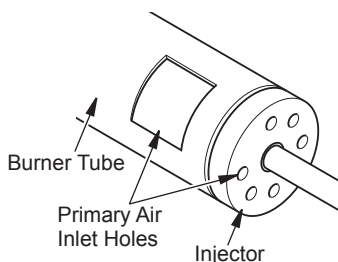

Figure 37 - Burner and Injector Holder
2. Inspect burner, pilot and primary air inlet holes on injector for dust and dirt (see Figure 37).